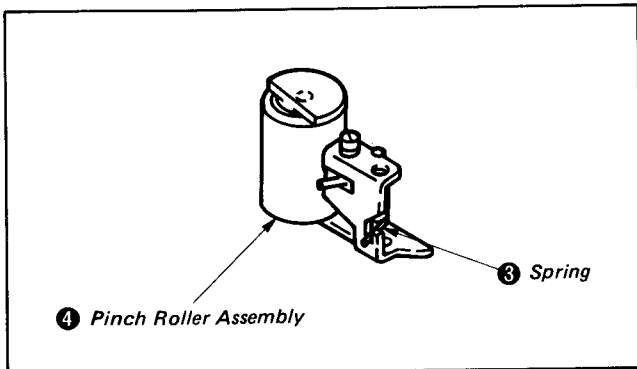

Fig. 1-22
- 1) Rehook the spring **3**. (See Fig. 1-22.)